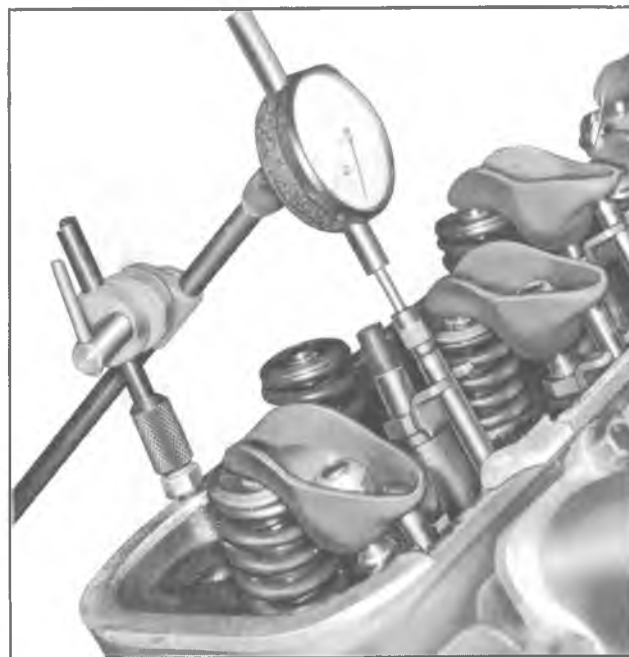

Fig. 18V—Measuring Camshaft Lobe Lift
2. Position indicator with ball socket adapter (Tool J-8520) on push rod (fig. 18V).